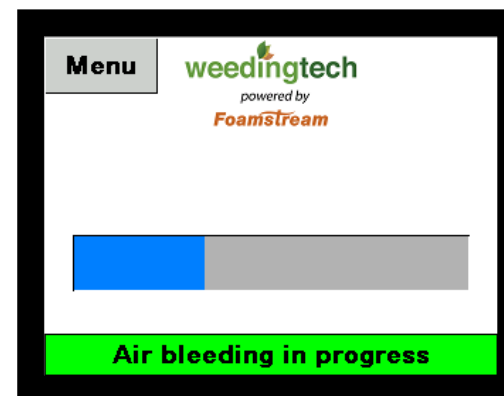

Figure 13 - Bleed screen of the PLC
- ✓ Once button **1** or **2** is pressed the bleed screen represented in Figure 13 will appear.